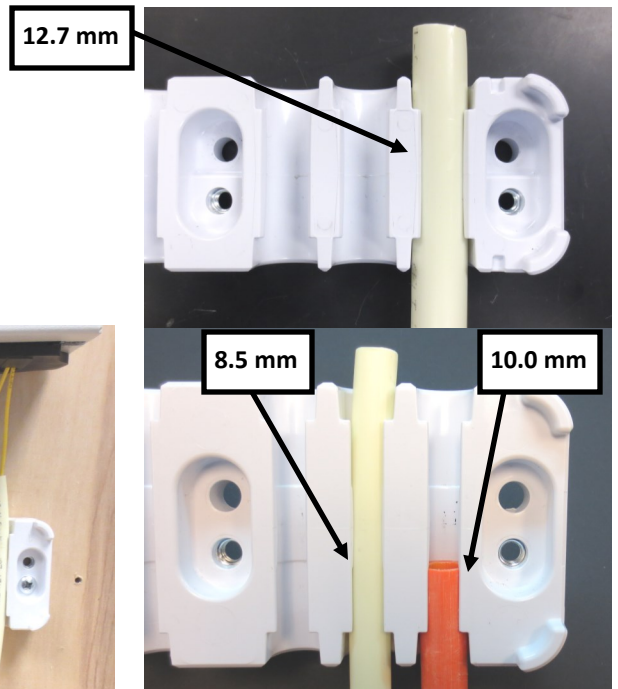

Fig. 6
4. Once the first microduct manifold plate is secured, route each tube to the manifold plate and cut to length. See Figure 6 for cut length estimates for either 8.5, 10.0, or 12.7 mm tubes.
5. **Push 8.5 mm and 12.7 mm tubes through the manifold plate (Fig. 4-5). Make sure 8.5/12.7 mm tube is even or just past edge after installation. Push 10.0 mm tubes until bottomed out approximately halfway through manifold plate (Fig. 6).**